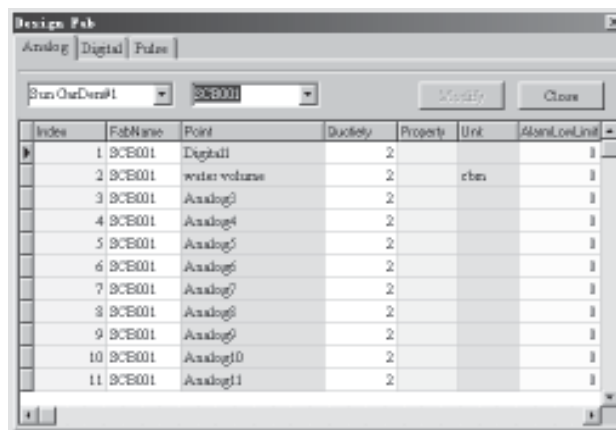

Fig. 4-11 Defining the FAB I/O Ports
Step 2. Click the name of the station to be controlled and the name of the port to be detected, the resources, signals and corresponding message of the FABs at the station will be displayed automatically. For example, in Interface 4-10, click Station Name 'Sun Garden #1' and FAB Name 'SGB001' the interface as in Fig. 4-11 will be displayed.